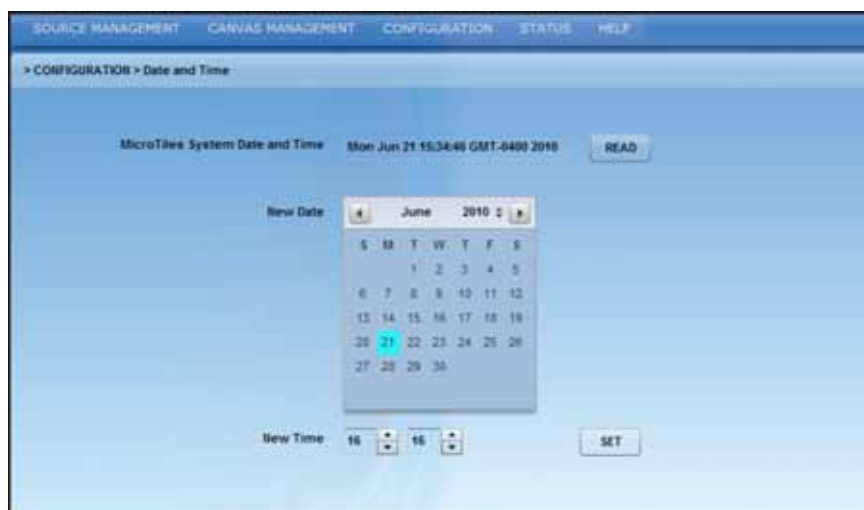

Figure 3-35 Configuration > Date and Time
2. To edit an existing subarray select it from the spreadsheet and click **Edit**. Once selected the bottom portion of the window changes to display the editing properties (**Figure 3-35**). **NOTE:** *Automatic mapping must be enabled for changes to take affect. For details, see Automatic Mapping, on page 3-29.*